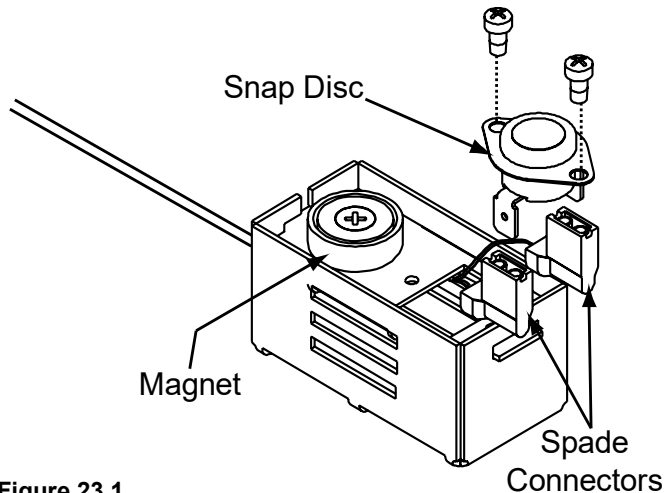

Figure 23.1
3. Pull the snap disc and spade connectors up and out of bracket as shown in **Figure 23.1**